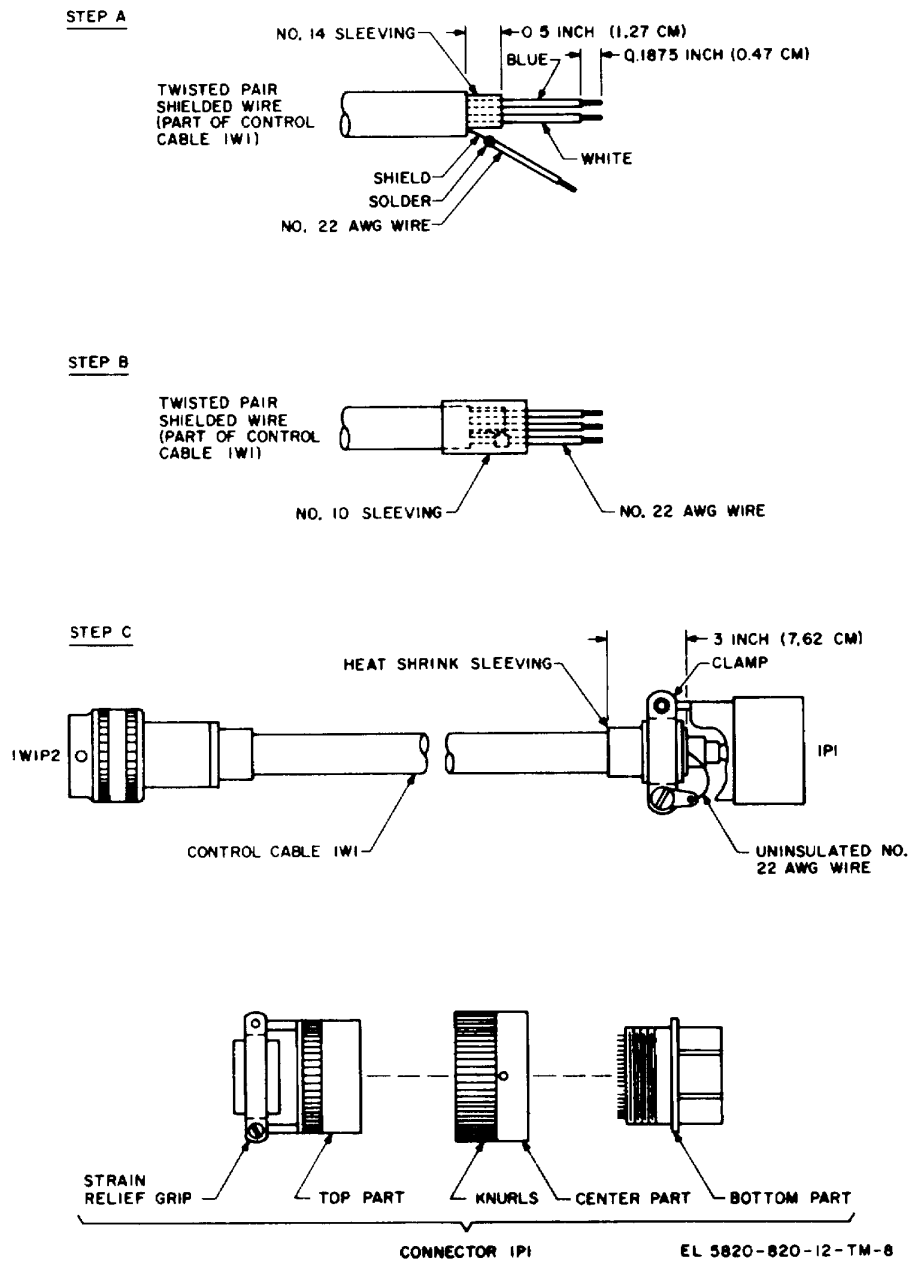

Figure 2-7. Control cable 1W1 assembly.
(3) Slip a 3-inch piece of heat shrink sleeving (table 1-1 and step C, figure 2-7) over the cut end of the cable.
(4) Unscrew the top part of connector 1P1 (table 1-1) and slip the top and center parts (figure 2-7) on the cable. The strain relief grip on the top part of the connector and the knurled end of the center part must be toward connector 1W1P2 (figure 2-7).
(7) Remove 2.25 inches of the white jacket material from the shielded pair of wires.
(8) Slip a 0.5-inch length of no. 14 sleeving (table 1-1) over the blue and white wires as shown in step A, figure 2-7.
(9) Solder a piece of 22 AWG wire (table 1-1) to the shield of the twisted pair (step A, figure 2-7). Cut the wire to the exact length as the blue and white wires and remove 0.1875-inch of the insulation from all three wires.
(10) Slip a 1-inch length of no. 10 sleeving (table 1-1) over the three wires as shown in step B, figure 2-7.
connected (includes three wires shown in step B, figure 2-7).
(14) Slide the sleeving installed in step (12) down over each soldered connection.
(15) Solder a short length of no. 22 AWG wire (table 1-1) to the uninsulated wire in cable 1W1. Remove the insulation from this wire. Slide the heat shrink sleeving installed in step (3) down toward the end of the cable as shown in step C, figure 2-7.
(16) Slide the top and center part of connector 1P1 down the cable and thread the uninsulated wire (installed in step (15)) through the center and top parts of the connector as shown in step C, figure 2-7.
(17) Cut the uninsulated wire to a length suitable for connection to a bolt on the strain relief grip (step C, figure 2-7).
(18) Solder the no. 8 lug (table 1-1) to the uninsulated wire.
(19) Assemble the three parts of connector 1PI by screwing the top part into the bottom part.
(20) Install the no. 8 lug on the uninsulated wire under one of the bolts of the strain relief grip.
(21) Position the heat shrink sleeving (installed in step (3)) as shown in step C, figure 2-7.